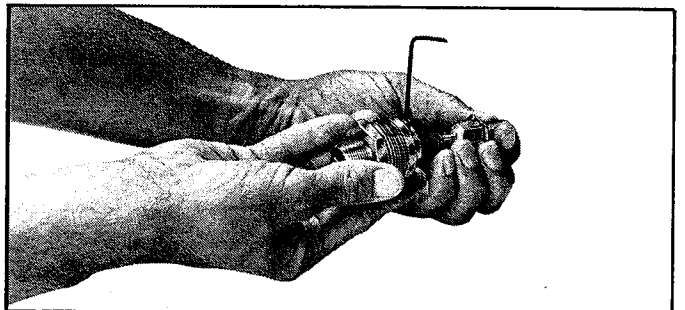

FIGURE 5
C. Loosen Set Screw (13) with a $\frac{3}{32}$ " hex. key and separate Actuator (2) from Actuator Plug (21) on end of Actuator Rod (3). See Figure 5.